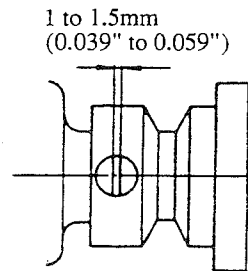

Fig. 5-35-2
- When fixing the handwheel, be sure that the setscrew No. 1 is located on the flat part of the main shaft. Adjust so that a clearance of 1 to 1.5 mm (0.039" to 0.059") is provided between the generator stator and the handwheel. (Fig. 5-35-2)